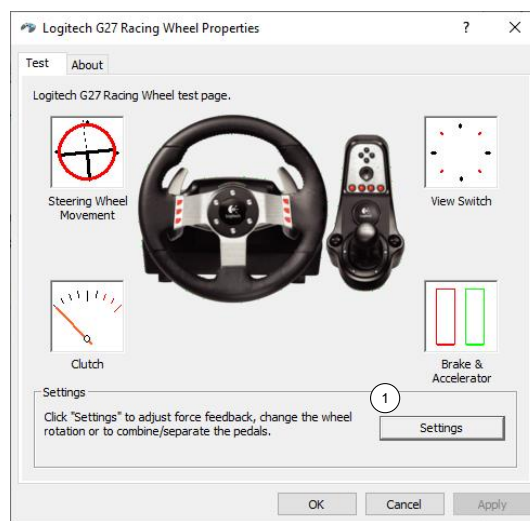

Figure 10. Logitech Racing Wheel Properties panel.
4. On the **Logitech Racing Wheel Properties** panel, click **Settings** (Figure 10, ①).